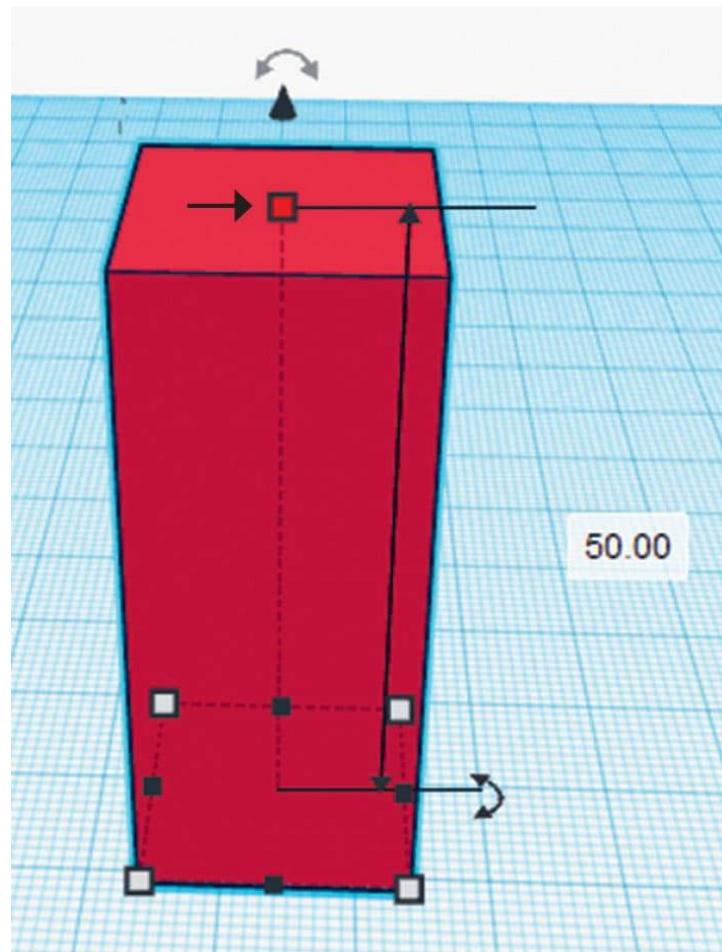

FIG. 3: Click and drag the height button to stretch the cube upward.
3. Next, modify the size of the cube to make it a stretched cube, or square prism, 50 mm tall. Click and drag up the white square at the top of the cube to adjust height. The box will change color to red when selected (fig. 3).